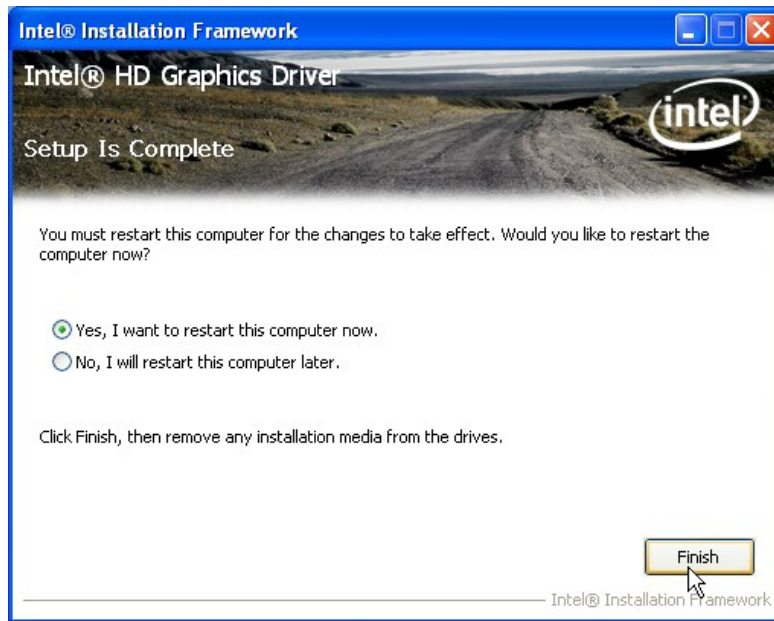

Figure 6-11: Graphics Driver Installation Finish Screen
Step 10: The **Finish** screen in Figure 6-11 appears.